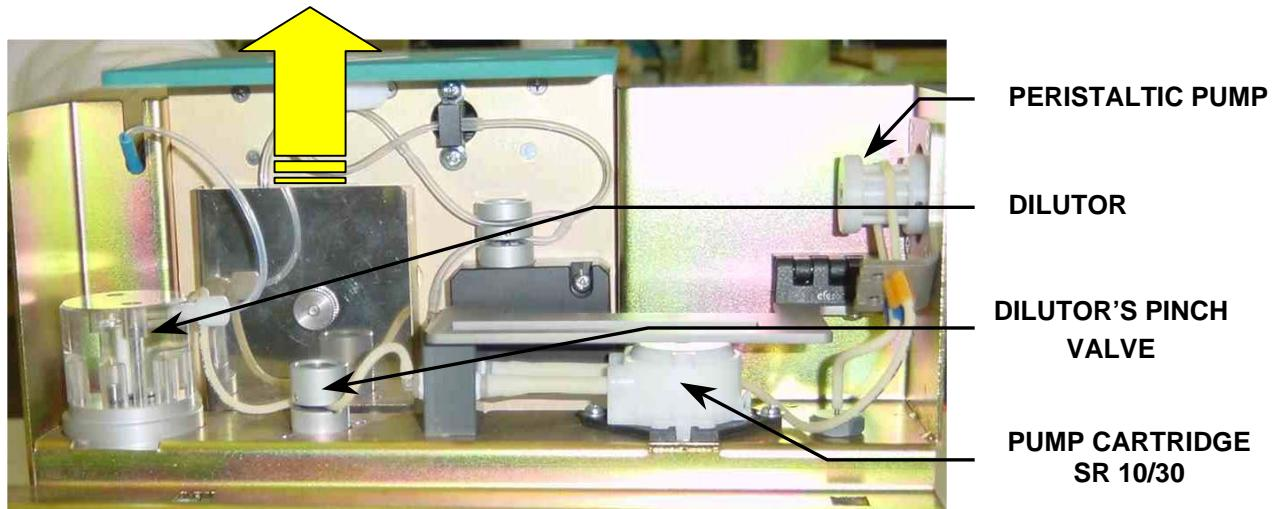

Figure 7
1. Before installing or replacing electrodes, remove the ISE module as shown in **Figure 7** and unscrew the thumbscrews securing the metallic shield.